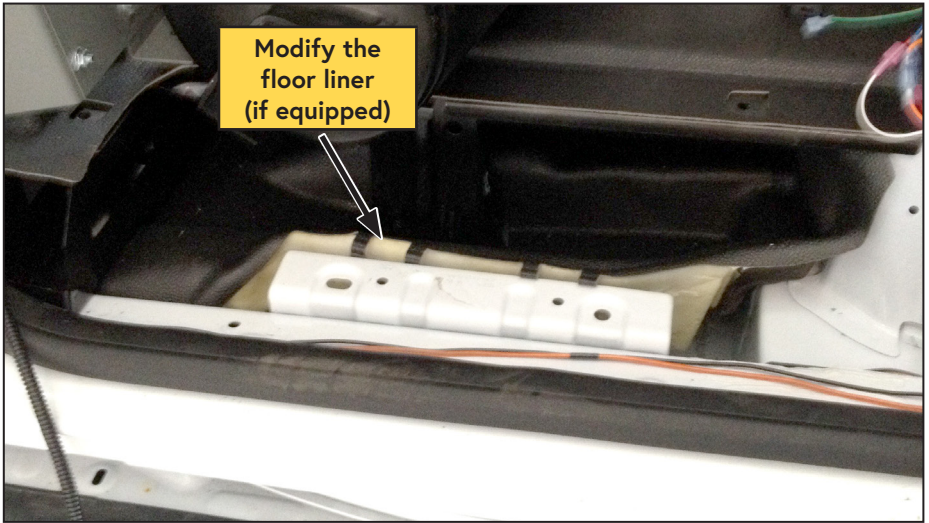

Figure 32 — Sub floor liner
- If there is a floor liner in the sub-floor, modify it to provide access to the floor tunnel (Figure 32).